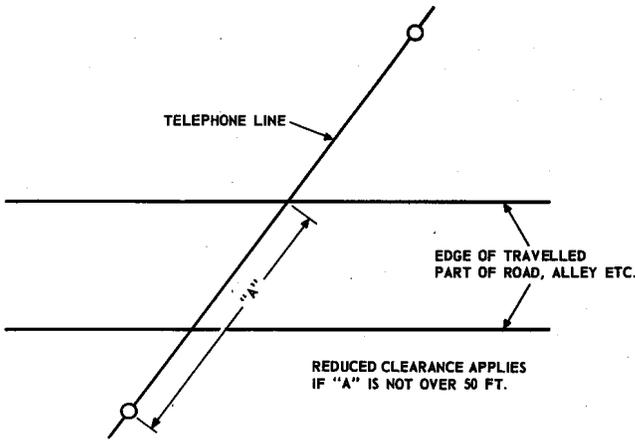

Fig. 4—Wire Crossing Public Road—Pole at Road's Edge
1.05 When drop wire sags exceed two or three feet, it will generally be quite advantageous to locate poles to avoid having the middle of the span occur above the traveled part of a road, alley, or driveway. A pole located within 50 feet of the far edge of the road, alley, or driveway (distance A, Fig. 4) will permit the overhead clearance to conform to requirements related to Fig. 4.
(2) **Pole at Road's Edge:** (Fig. 4) Clearance required when the drop wire is attached to a pole located within 50 feet of the far edge of the traveled roadway (distance A, Fig. 4).